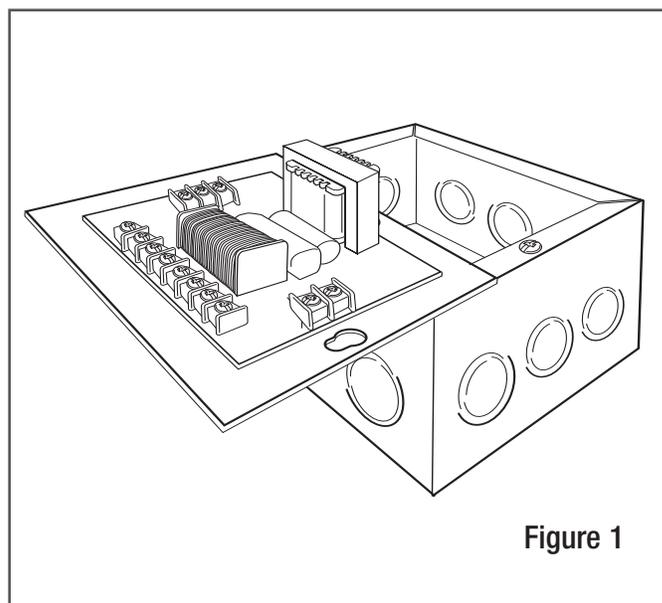

Figure 1
1. Remove faceplate (which has Network assembly attached to it) from metal enclosure and mount the metal enclosure for the Comm Sat Network at the distribution point for the wires to be connected to it. The enclosure will accept appropriate conduit/wire adapters (not included). Feed wires through conduit/wire adapter and connect to the terminal strip according to the desired operation mode. Be sure to observe proper polarity. Replace enclosure cover after completing all connections properly and tighten the conduit/wire adapters to secure the wires. See Figure 1.